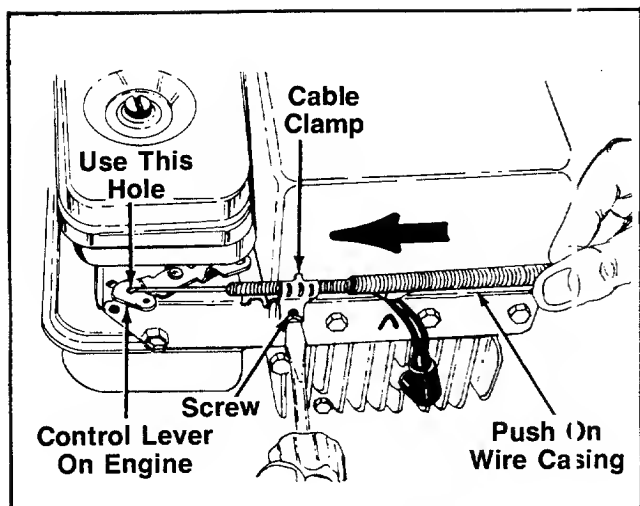

FIGURE 6A.—Models 412R & 422R
2. The throttle control cable is attached to the upper handle. Route the throttle control cable under the lower handle and inside the handle mounting bracket. Hook the "Z" end of the throttle control cable into the arm on the control lever on the engine which has two holes, using the **outside** hole as shown in figure 6A.
3. Remove the screw on the cable clamp on the engine shown in figure 6A. Slip the control casing under the clamp. Replace the screw, but do not tighten (cable must still move freely beneath the clamp).
4. Slide the control lever on the engine as far toward the **outside** of the engine as it will go. Push the wire casing on the throttle control cable toward the control lever on the engine as shown in figure 6A as you tighten the screw on the cable clamp to secure the cable in this position.